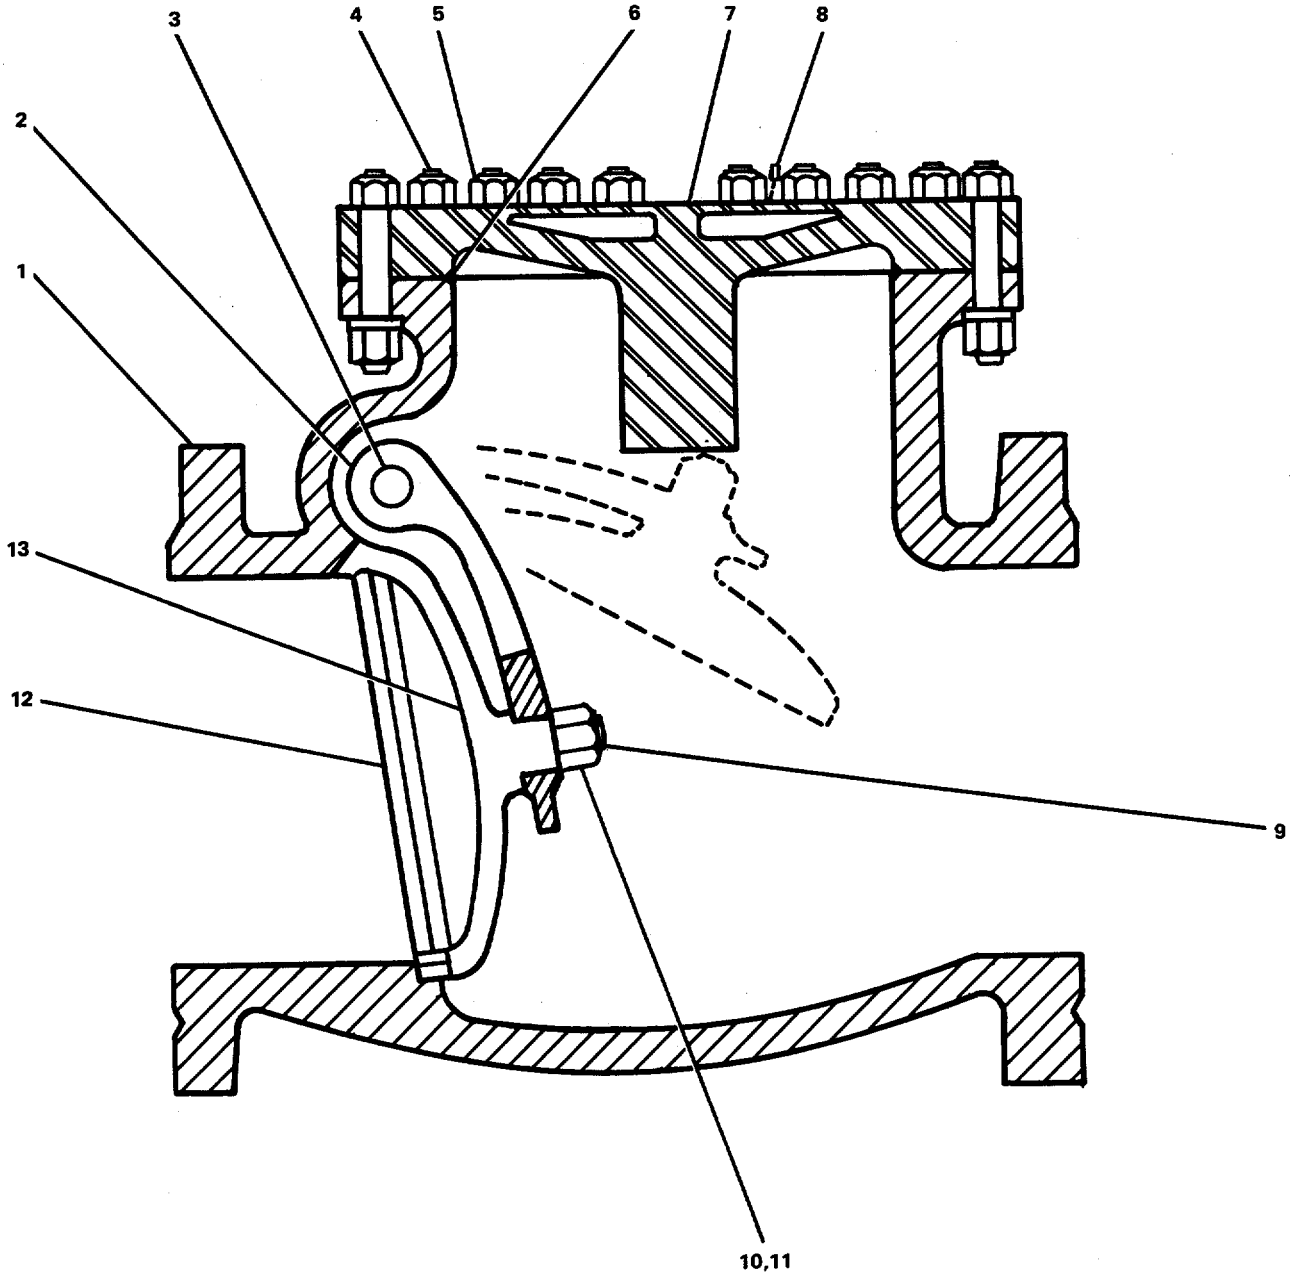

FIGURE 3-197. 4-Inch Swing Check Valve, Repair.
- k. Install gasket (19) and end fitting (23) on body (18).
- l. Install lockwasher (20) and hexagon head capscrew (21).
- m. Install performed packing (6) and packing retainer (24).
- n. Install fluid valve stem (5).
- o. Install gland liner (26).
- p. Install packing retainer (25).
- q. Install handle (4).
- r. Install lockwasher (27) and hexagon nut (28).
**3-209. Repair 4-Inch Swing Check Valve. (Figure 3-197)**